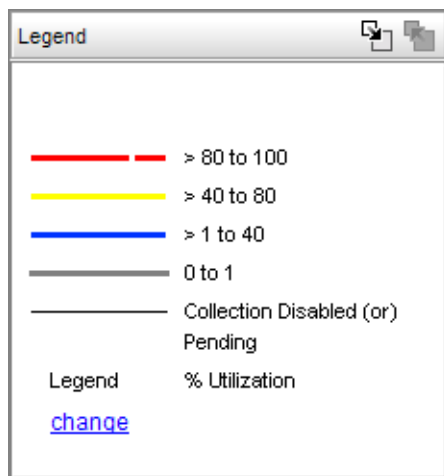

FIGURE 416 Utilization Legend
- Displays different colors to represent the percentage utilization range, as shown in Figure 416 on page 980.